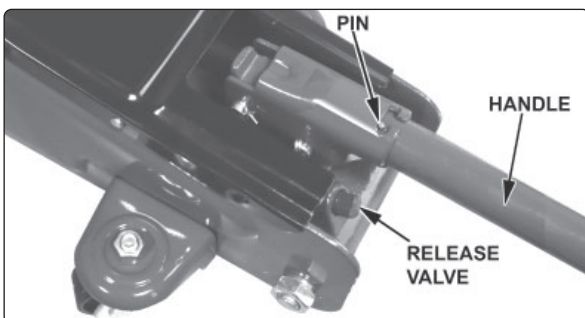

Fig.1
- 4.1. To pump, place the handle into the jacking socket and turn it to engage the external pin as shown in fig.1.